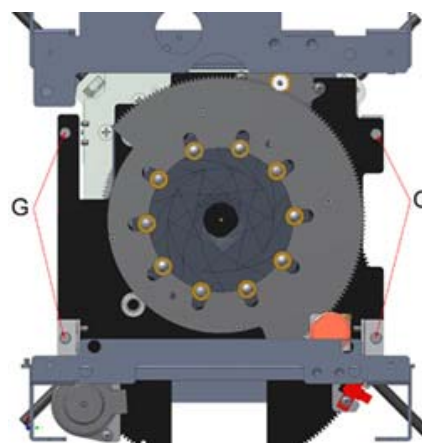

Fig. 4
- Unscrew the 4 screws **G** on the iris support plate, see **Fig. 4**
- Unscrew the 4 screws **G** on the iris support plate, see **Fig.4**
- Loosen the 4 screws **G** on the iris support plate, see **Fig.4**
- The first adjustment focuses the video camera, the second adjustment points it. Once the adjustment is finished tighten the two **B** screws and remount the cover, see **Fig. 4**.